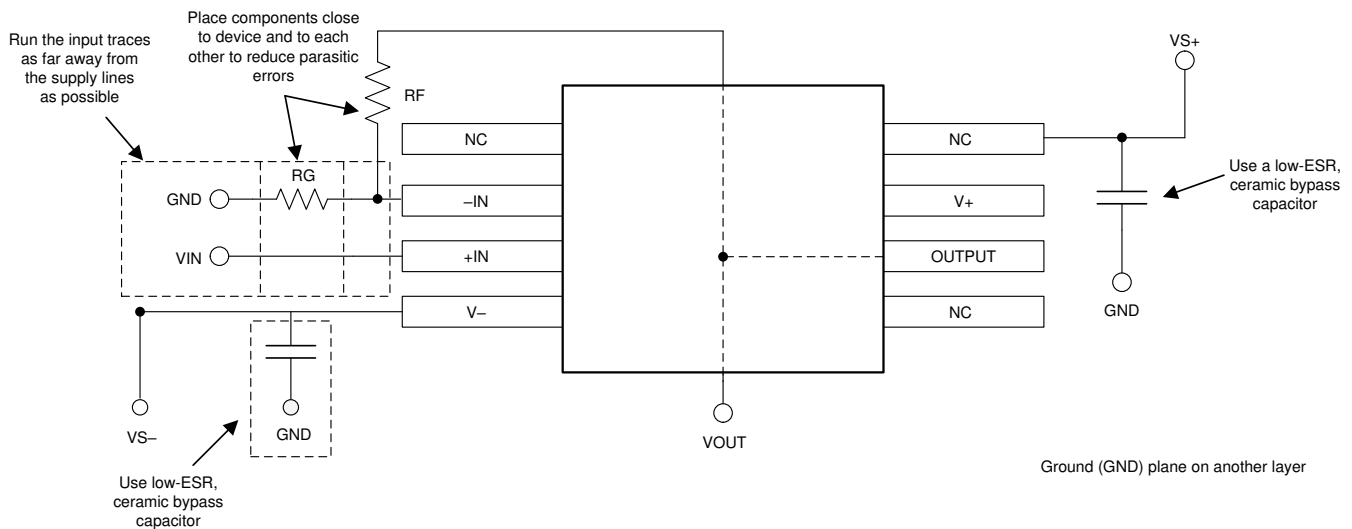

Figure 11-1. Operational Amplifier Board Layout for a Noninverting Configuration
- Place the external components as close to the device as possible. Figure 11-1 illustrates how keeping R_F and R_G close to the inverting input minimizes parasitic capacitance.